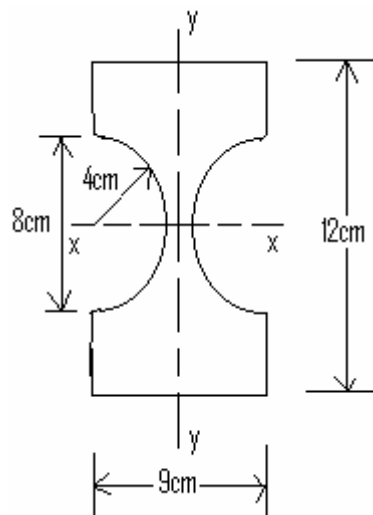

Figure.2
- 3.a) Figure.2. shows the section of a beam. Find the ratio of its moment of resistance to bending in the plane YY to that for bending in the plane XX if the maximum stress due to the bending is the same in both cases. For a semi-circle of radius r , the centroid is at a distance of $4r/3\pi$ from the centre.